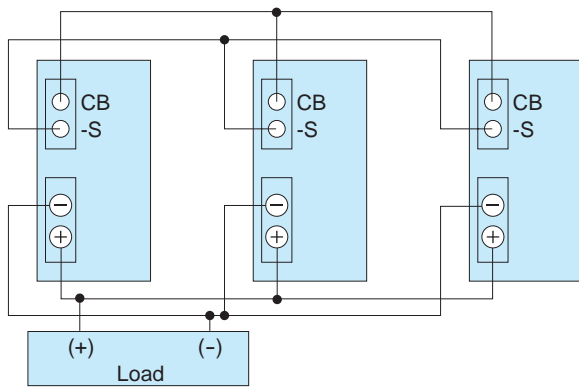

Fig.5.10 Parallel operation condition
- Wire the power supplies as shown in Fig. 5.10. Make sure the output wires of the units connected in parallel are of the same length and the same type.
- ③ Make sure the total output current does not exceed the value determined by the following formula: